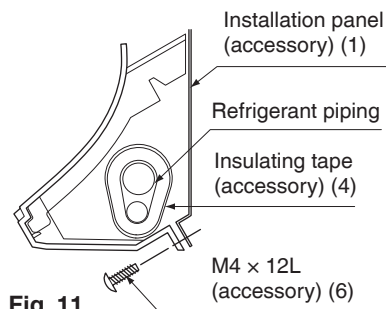

Fig. 11
- Secure the indoor unit to the installation panel (1) with the securing screws (6). (Refer to Fig. 11)